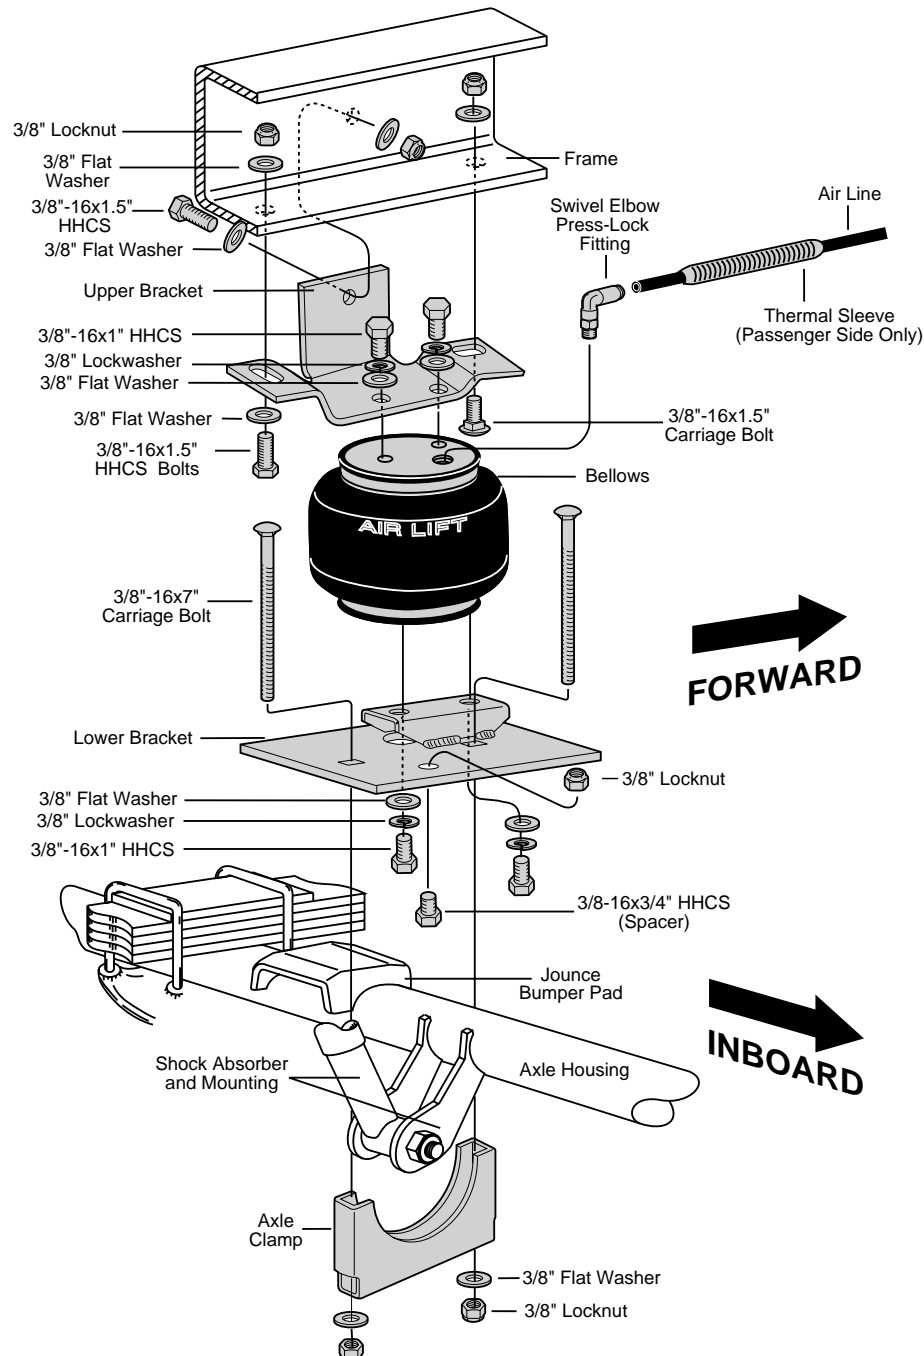
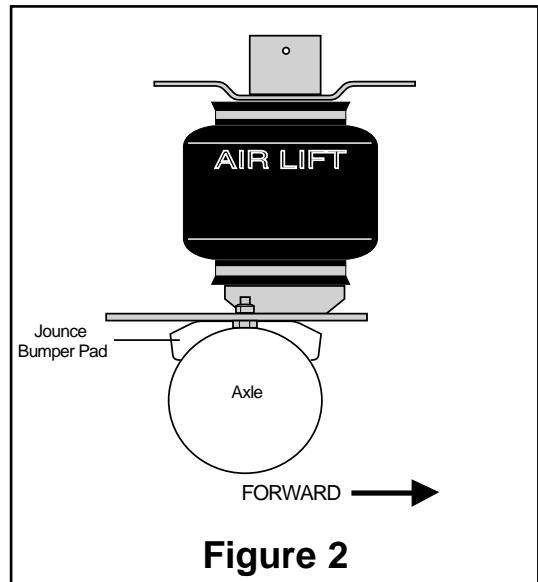

FIGURE 1
Figure 2
2. Lower axle or raise frame an additional 2 - 3 inches to provide clearance when positioning air spring assembly. **NOTE: IF THE VEHICLE IS EQUIPPED WITH A FACTORY SWAY BAR, IT WILL BE NECESSARY TO SET THE LOWER AXLE CLAMP IN PLACE BEFORE LOWERING AXLE (FIGURE 1).**
5. A spacer is required so that the lower bracket sits level on the axle housing/jounce bumper pad. Insert 3/8-16x3/4" HHCS bolt through lower bracket and secure with 3/8" lock nut (Figure 1). The spacer should sit inboard of the jounce bumper pad (Figure 2).
6. Put the 3/8-16x7" carriage bolts into the rectangle holes in the lower bracket. Attach the bellows onto the upper and lower brackets using the round holes with the 3/8"-16x1" mounting bolts, flat washers, and lock washers. **There are right and left hand units (marked).** Tighten to 15-20 ft-lbs. (Figure 1).
7. Place the assembly on the axle housing, guide the carriage bolts through the axle clamp and align so that the bellows follows the natural arc of the suspension travel. Attach lower bracket to axle housing loosely using axle clamp, flat washers and locknuts (Figure 1 & 4).
9. With the upper bracket in this position, and using the bracket as a template, mark and drill the 3/8" hole on the OUTBOARD side of the frame rail through the upper bracket. Install the 3/8-16x1.5" HHCS bolt, flat washer and locknut and tighten to 20 ft.lbs. Tighten the two bolts previously installed (Figure 1).
TO PREVENT AIR LINE FROM MELTING, KEEP IT AT LEAST TWELVE INCHES FROM EXHAUST SYSTEM. USE THERMAL SLEEVE ON EXHAUST SIDE (FIGURE 1).